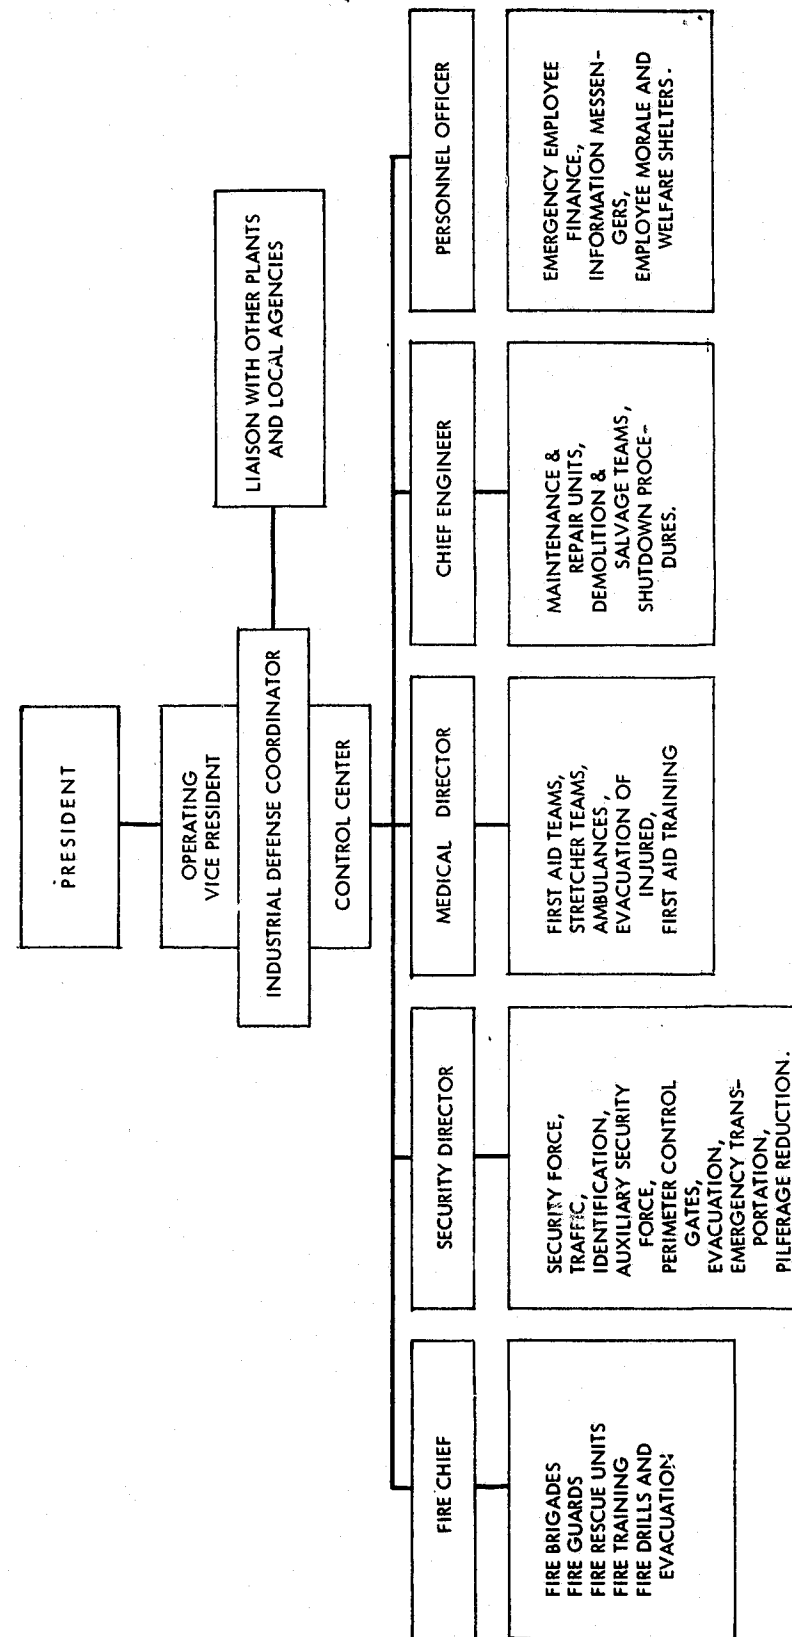

Figure 1.
**7. ORGANIZATION.** (Figure 1 is a type of emergency organization which may be modified to meet the needs of your facility.)